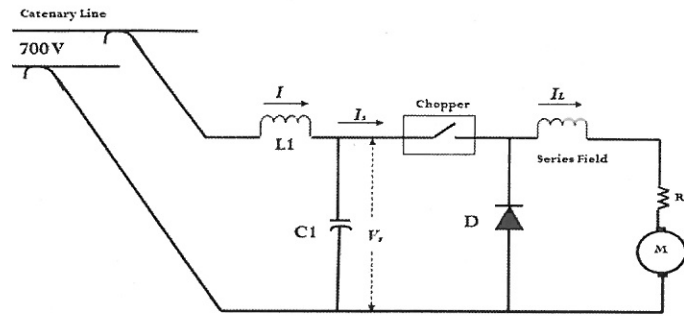

Figure 1: Direct Current motor driven by a chopper
1.2 A trolley-bus is driven by a 150 hp, 1500 RPM, 600 series dc motor as in figure 1. The nominal full-load current is 200 A and the total resistance of the armature and field is 0.1Ω . The bus is fed from a 700 V dc catenary line. A chopper controls the torque and the speed. The chopper frequency varies from 50 Hz to 1600 Hz, but "ON" time T_a is fixed at 600×10^{-6} seconds.